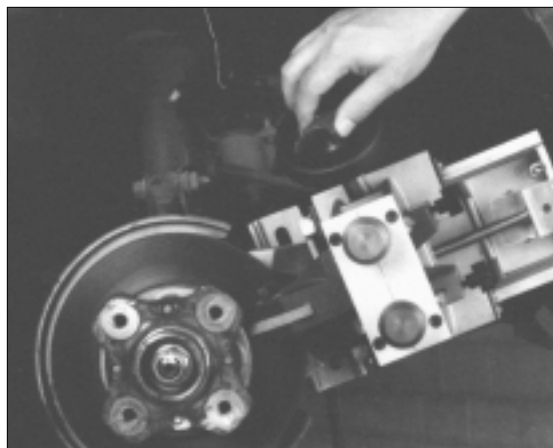

Figure 19
15. Tighten the engagement knob in the center of the handwheel, Fig. 19. This will start the cut. When the cutting bits have cleared the outer edge of the rotor, loosen the engagement knob to stop the carriage.